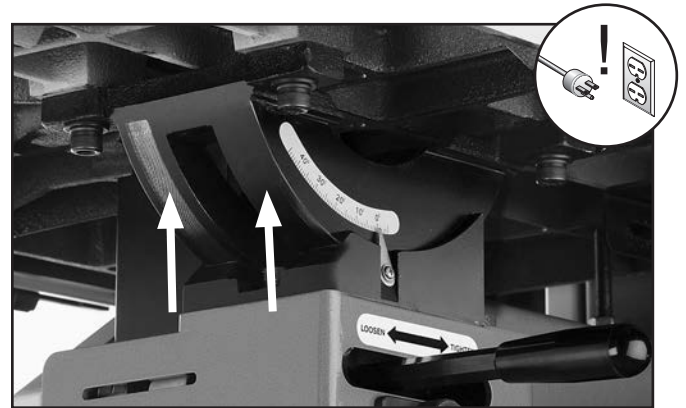

Figure 66. Trunnion lubrication location.
3. Apply a thin coat of multi-purpose GL2 grease to the outside surfaces of the trunnion (see **Figure 66**).